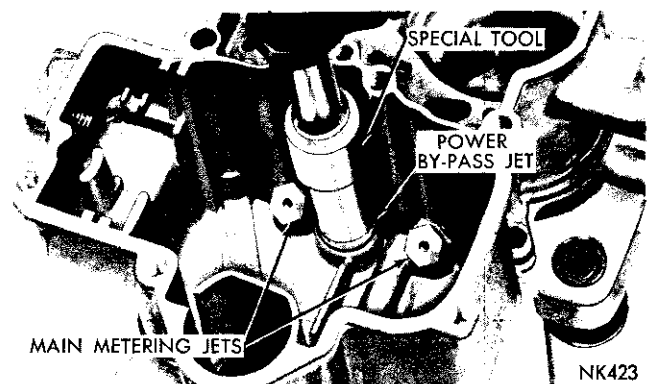

Fig. 7—Removing or Installing the Power By-Pass Jet
(5) Using T109-73S, remove the power by-pass jet and gasket, as shown in (Fig. 7).
(6) Using Tool T109-173, remove the two main metering jets, as shown in (Figs. 7 or 8).
(7) Remove the two air horn screws, used to hold the main and throttle bodies together. Separate the throttle and main bodies, and discard the gasket.
- (3) Install the power by-pass jet and new gasket. Tighten securely, using Tool 73598. Refer to (Fig. 7).